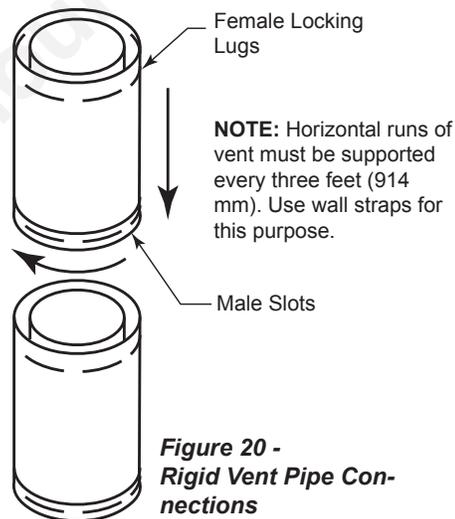

Figure 20 - Rigid Vent Pipe Connections
Twist-Lock Procedure: The female ends of the pipes and fittings have three (3) locking lugs (indentations). These lugs will slide straight into matching slots on the male end of adjacent pipes and fittings. Push the pipe sections together and twist one section clockwise approximately one-quarter turn until the sections are fully locked. *Figure 20*